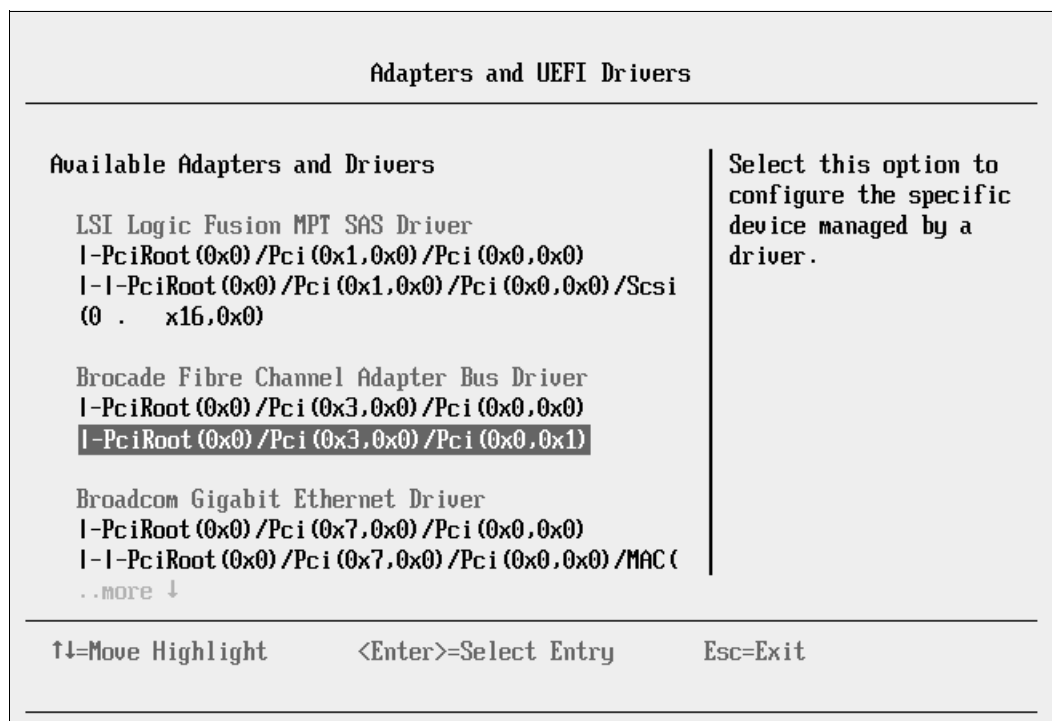

Figure 9-187 Adapters and UEFI Drivers panel
3. In the Adapters and UEFI Drivers panel (Figure 9-187), select the Brocade port you want to boot from. The first port connects to the lower slot, and the second port connects to the higher numbered slot. The panel in this example shows the Brocade Fibre Channel Adapter Bus Driver. The second port is highlighted, which is a CFFh card that communicates to bay 9.